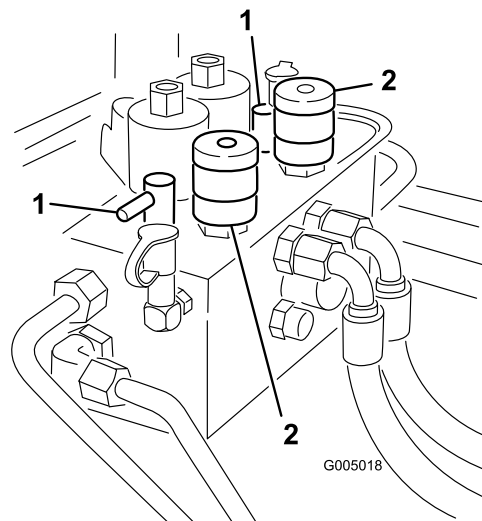

Figure 78
3. Locate the reel speed selector knobs and backlap knobs (Figure 78). Rotate the desired backlap knob(s) to the backlap position and the desired reel speed selector knob(s) to position 1.